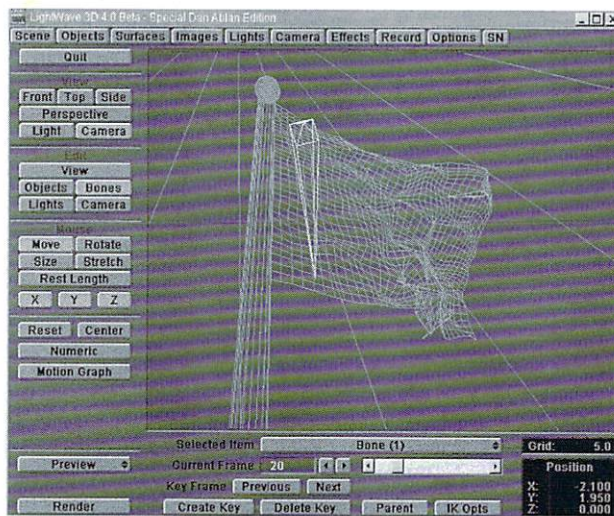

Figure 3: By adding three Bones to the flag, you gain an extra animation element.
- Add three Bones. Place one at the top right corner of the flag. Place another at the bottom right corner. The third Bone is going to be an anchor. Rotate it 90 degrees on the pitch. Click the Rest Length button and increase the length of the Bone to about the height of the flag. Place it on the left side of the flag, as in Figure 3. Create a keyframe at frame 0 for all three Bones and make them active by selecting (r) for each Bone or selecting Bone Active in the Skeleton panel for each Bone.